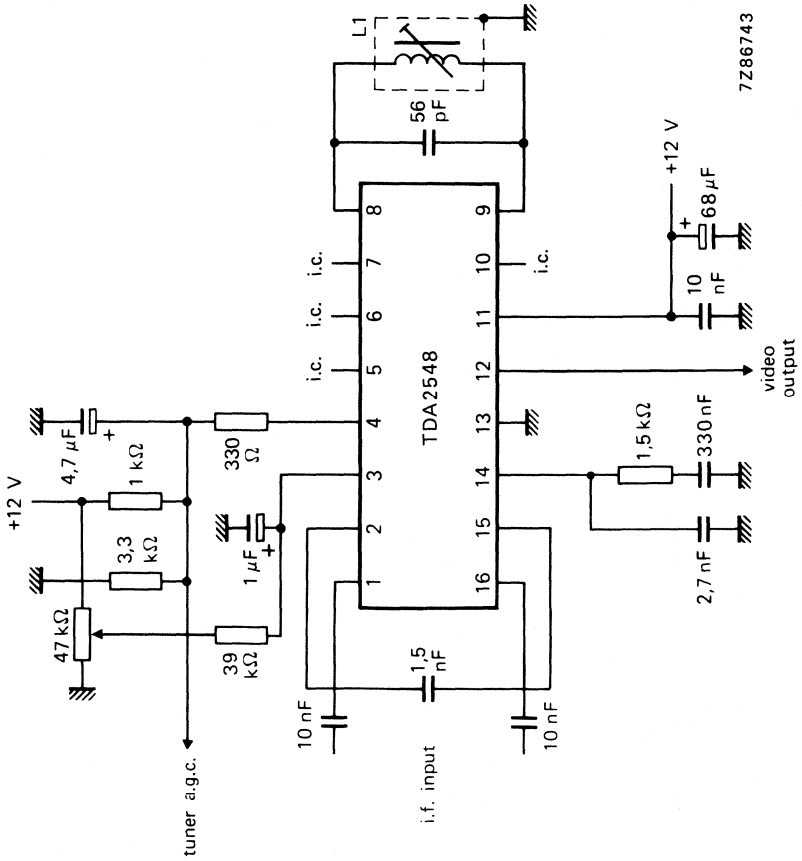

Fig. 5 Typical application circuit diagram; Q of L1 ≈ 80; f0 38,9 MHz.
**CHARACTERISTICS** (measured in Fig. 5)